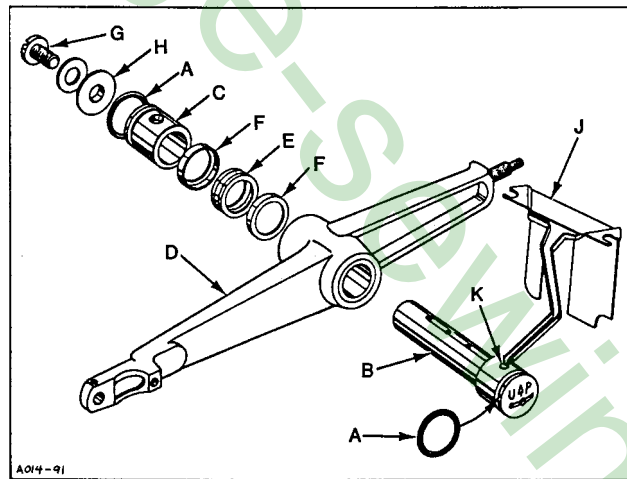

Fig. 15
1. Install "O" rings (A, Fig. 15) onto needle lever stud (B) and thrust collar (C).
2. With needle lever (D) in machine and positioned properly; insert stud (B) through hole in needle lever until its shoulder contacts the needle lever and the word "UP" on stud is in the upright position. While making sure no binding exists in the needle bar link, secure stud (B) with the front set screw in top of machine bed.
3. Install temper load ring (E) and compression cups (F) onto stud (B), then push ring and cups through opening in machine bed.
4. Install thrust collar (C) onto stud (B) being careful not to damage "O" ring. Compress components together by tightening screw (G) until washer (H) bottoms against stud (B). Secure stud (B) in position using the rear set screw in top of bed.
5. To check temper load ring for proper compression, remove screw (G) from stud (B) and loosen rear set screw in top of bed. Thrust collar (C) should spring out .003 -.007 inch (.08-.18mm). Compress load ring in reverse order, then tighten rear set screw.
6. With indented "UP" on stud (B) in upright position, install bearing oiler (J) so its hook sets in oil supply hole (K) of stud. When hook and stud are secured in their proper position, the proper amount of oil will be channeled to stud for lubricating needle lever (D).